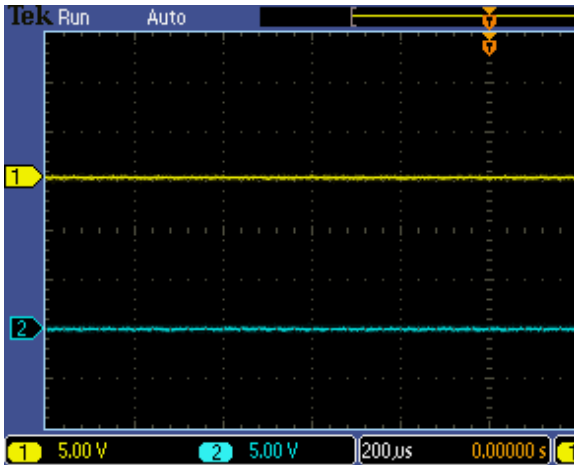

Figure 7: Tek channel settings
1. Turn on the scope and then turn on two of four input channels by pressing the buttons with numbers on them in the vertical section of controls until the traces appear on the screen. In this example we’ll use channels 1 and 2. The wide rectangular box at the lower left of the screen (Fig. 7) shows the channels that have been turned on.